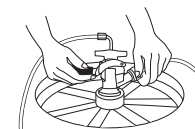

fig. 4
4. Make sure the beer tower faucet is in the closed (handle pointing straight back) position before connecting the tap to the keg. To secure the tank connection, pull the tapping handle out and push down until it locks into position. Listen for the “click” of the pull handle when it shifts into the final downward position (Fig. 4 - below). This will open the beer and CO₂ gas valves. The keg is now tapped.